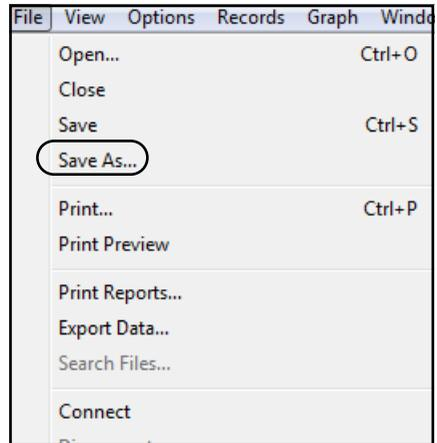

FIGURE 3-18 File/Save As Menu
Step 2 Click **File/Save As**, shown in FIGURE 3-18.